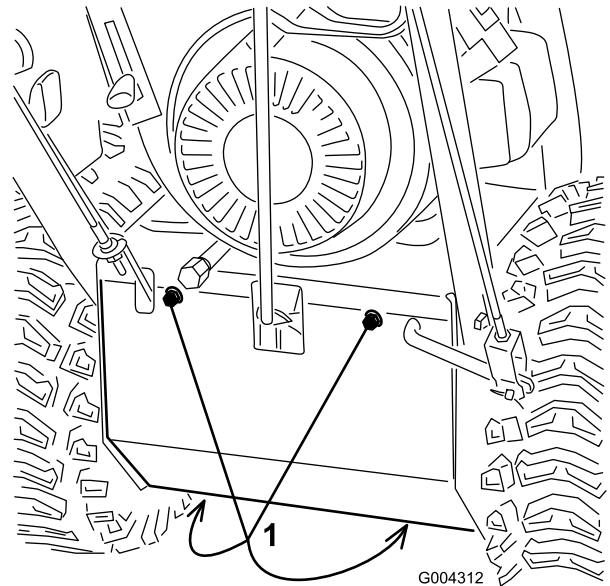

Figure 33
3. Remove the 4 flange-head bolts that secure the bottom cover to the frame and remove the cover (Figure 33).
3. Remove the 4 flange-head bolts that secure the bottom cover and remove the cover (Figure 33).
6. Remove the 4 flange-head bolts that secure the bottom cover to the frame and remove the cover (Figure 33).